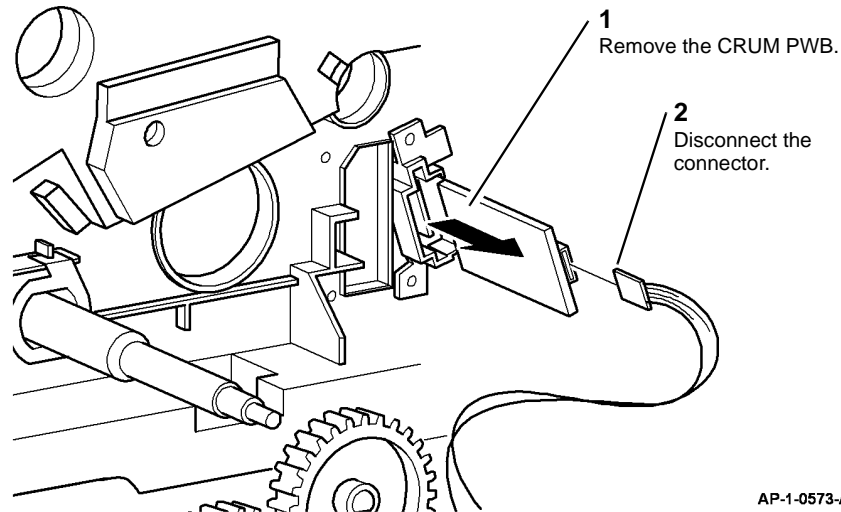

Figure 2 PWB removal
- Remove the CRUM PWB, Figure 2.